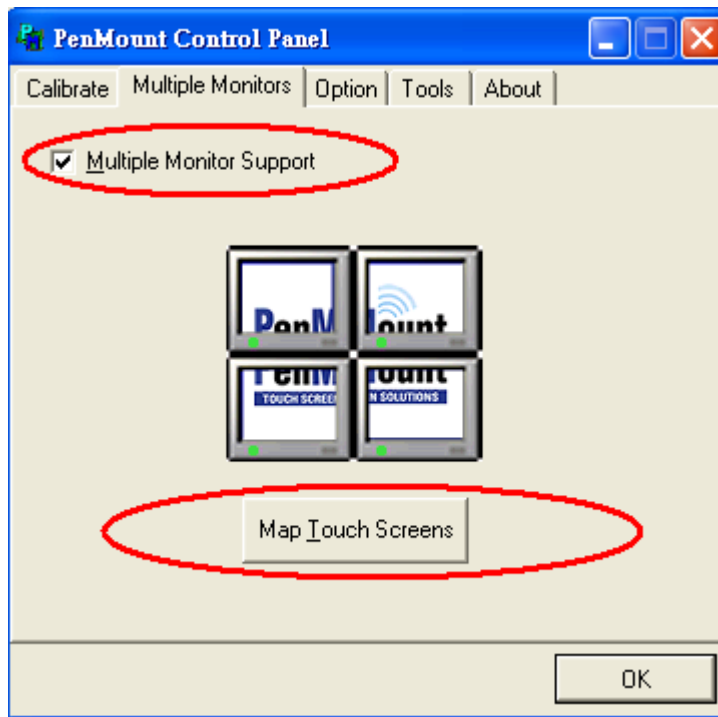

Fig3
3. If the Graphics Controller setting “Extended Desktop” and Primary Device is Monitor , the Touch Screen setting you need to select “Multiple Monitor Support” → Map Touch Screens. (See Fig3)